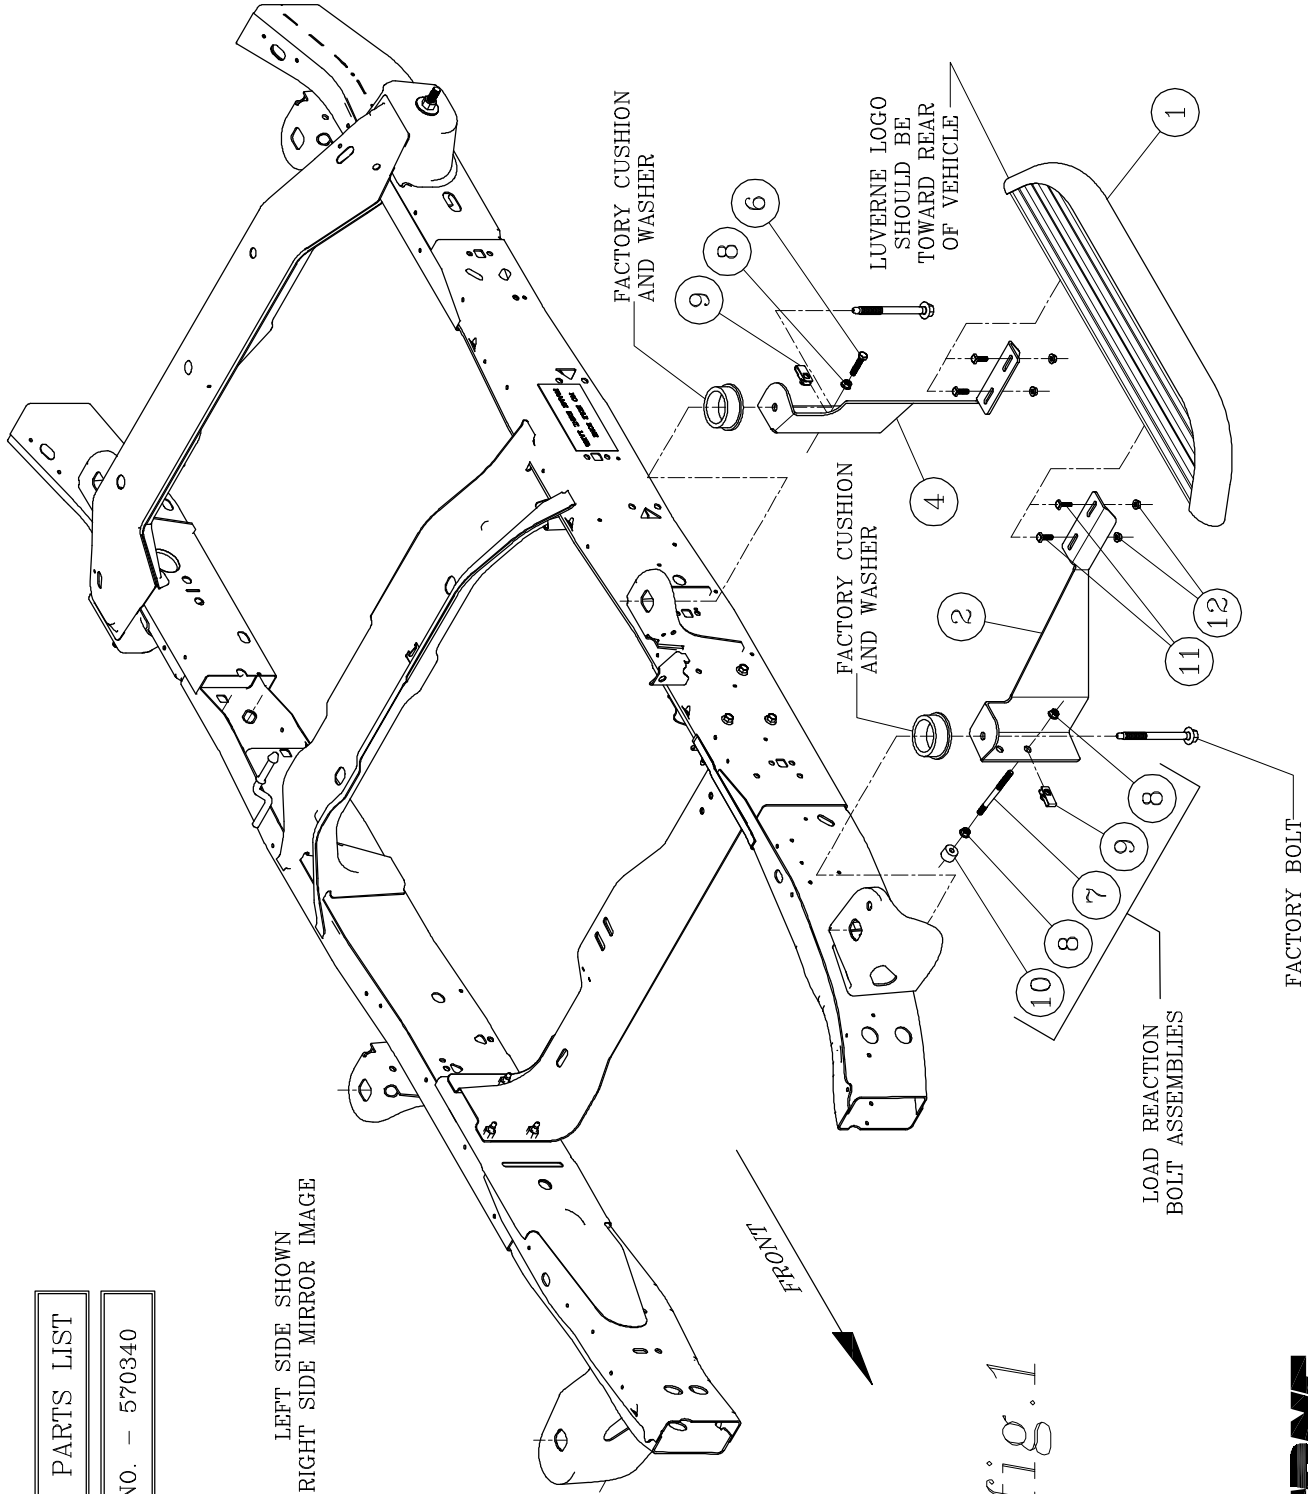

fig. 1
2. INSTALL THE MULTI-THREAD U-NUT (ITEM #14) ON THE FRONT MOUNTING BRACKET (ITEM #3) AND ASSEMBLE THE 3/8"-16 X 5 STUD (ITEM #11), 3/8"-16 SERRATED FLANGE NUTS (ITEM #13) AND THE .354 X 1.00 X .748 RUBBER WASHER (ITEM #17) INTO THE U-NUT (ITEM #14) (**LOAD REACTION BOLT ASSEMBLY**) AS SHOWN IN *fig. 1*.
5. INSTALL THE MULTI-THREAD U-NUT (ITEM #14) ON THE SECOND MOUNTING BRACKET (ITEM #5) (**USE THE TOP HOLE ON 1500 VANS AND THE BOTTOM HOLE ON 2500 & 3500 VANS**) AND ASSEMBLE THE 3/8"-16 X 1-1/4" SCREW (ITEM #10) AND 3/8"-16 SERRATED FLANGE NUT (ITEM #13) INTO THE U-NUT (ITEM #14) (**LOAD REACTION BOLT ASSEMBLY**) AS SHOWN IN *fig. 1*.